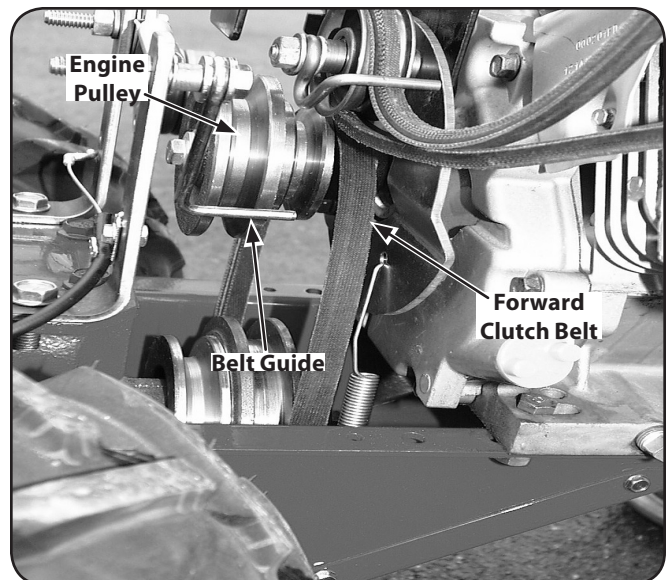
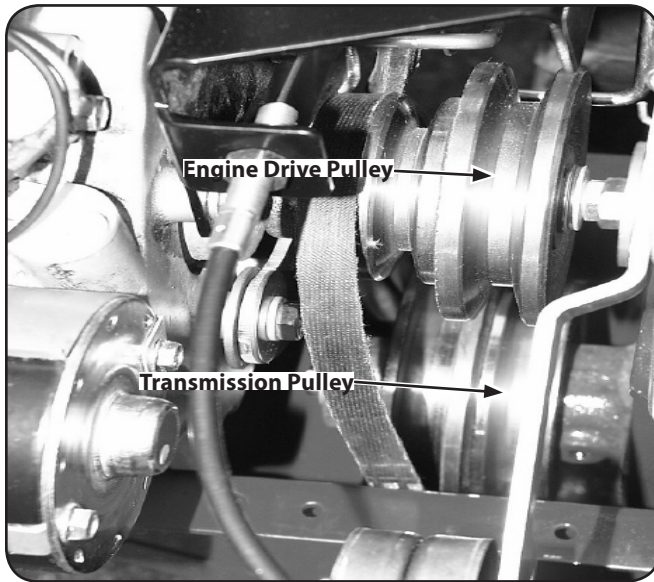

Figure 7-3
Figure 7-4
5. Slide the belt off the engine pulley, away from engine, out from under the belt guide and completely off the pulley. See Fig. 7-3.
6. Slip the belt off the front of the transmission pulley. See Fig. 7-4.
9. Insert the bottom half of the belt into the smaller, rear-most groove of the transmission pulley. See Fig. 7-4. Now slip the top half of the belt under the belt guide (See Fig. 7-3) and onto the large groove of engine drive pulley. See Fig. 7-4.